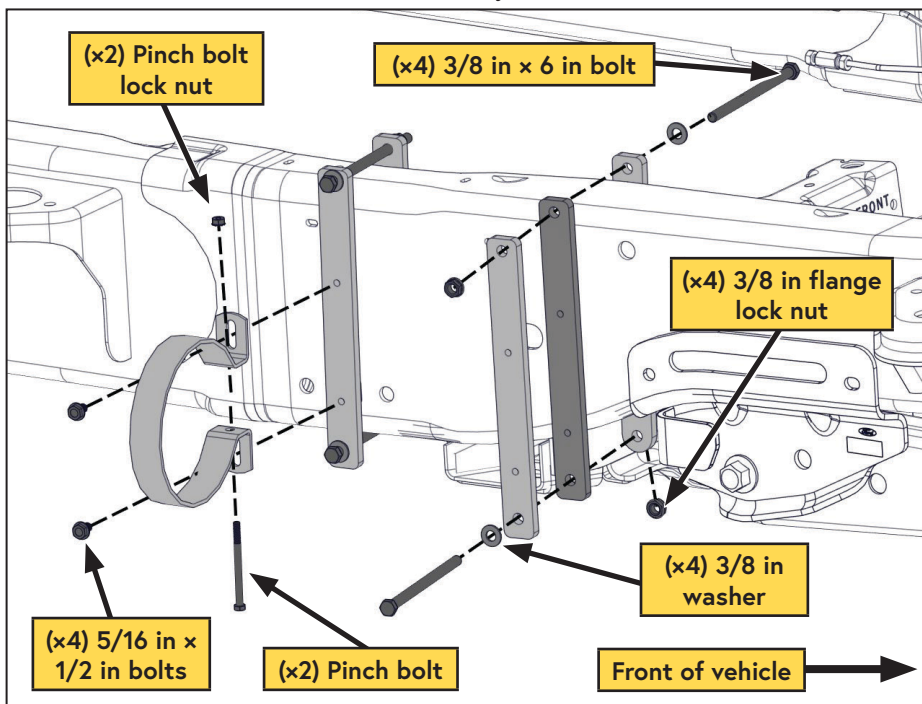

Figure 48 — Installing the AOST
The top bolt on the forward tank mount will need to be installed from the inside of the frame (Figure 48).
- ☐ Install the tank mounting brackets on the frame (Figure 48):
- ☐ Apply Loctite 242 (blue) to the (x2) 3/8 in x 6 in bolts and install the rear tank mount and backing strap approximately 10 in ahead of the rear cab mount. Leave the bolts finger tight to allow for minor adjustment (Figure 48).
Install the tank onto the tank mounts (Figure 48)*: